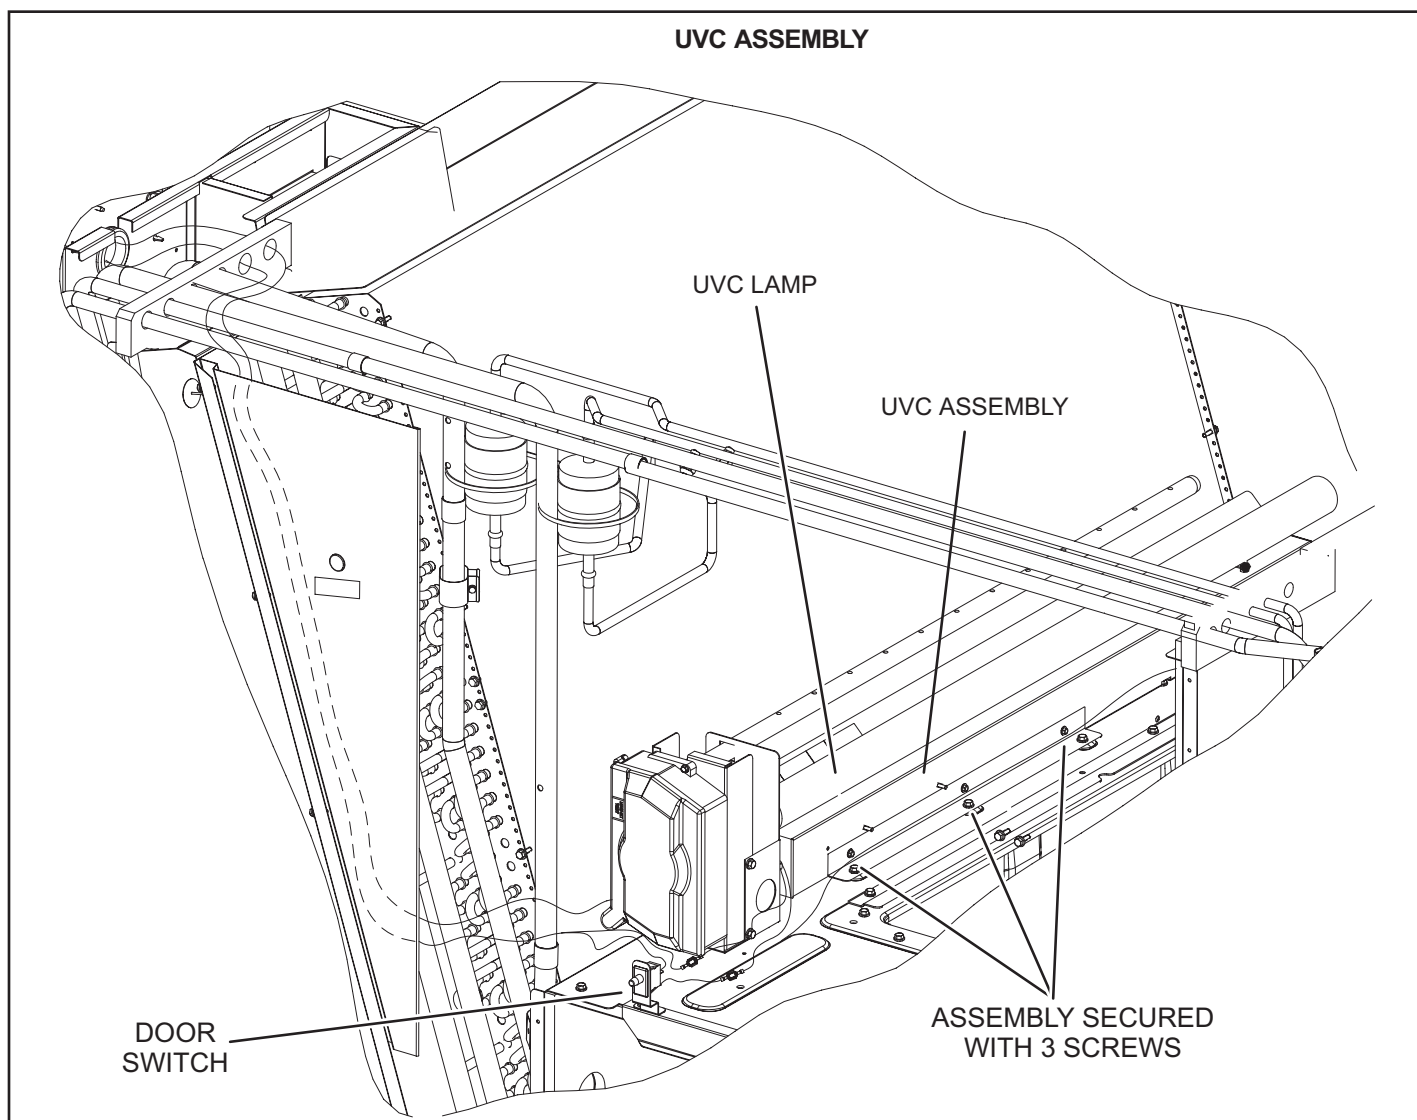
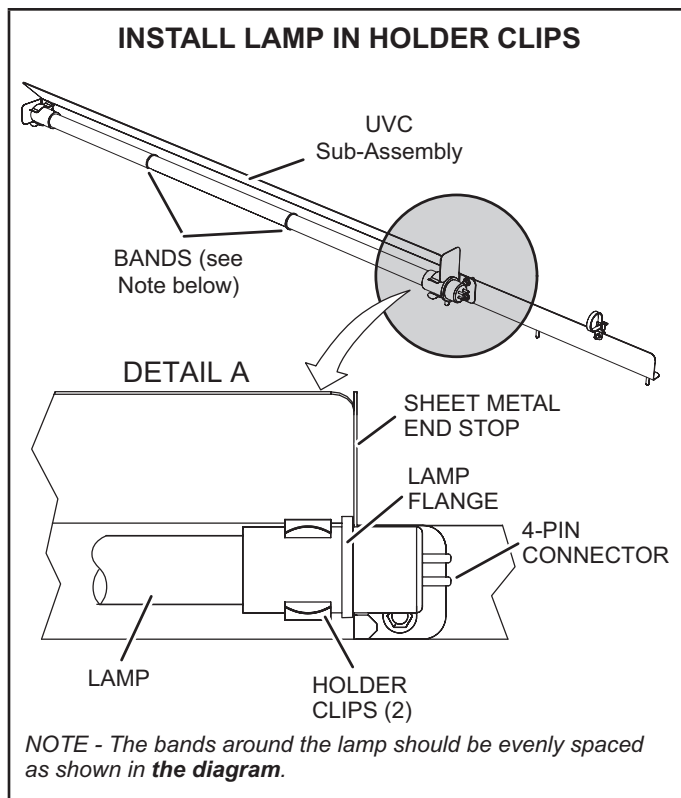

Figure 43
Figure 44
When the UVC light is factory installed, the lamp is shipped in a foam sleeve. The lamp is attached to the UVC light assembly on the blower deck. See Figure 43. Remove the lamp and install into the UVC light assembly as shown in steps 2 through 11.
- 5 - Remove and retain the (3) screws securing the UVC assembly. Carefully slide the complete UVC assembly out through the blower access door. See Figure 43.
- 7 - Wear cotton gloves or use a cotton cloth when handling the new lamp. Place the new lamp in the holder clips of the UVC assembly. Verify that the lamp flange at the connector end is sandwiched between the lamp holder clip and the sheet-metal end stop (see Figure 44).
- 8 - Carefully place the UVC assembly on the blower deck. Line up the mounting holes on the UVC assembly with the mounting holes on the blower deck. See Figure 43. Use the retained screws provided to attach the UVC assembly in place.
- 2 - Ohm-check across the lamp pins to check for continuity of lamp filaments (see Figure 44).
Troubleshooting charts are provided to aid in determining the cause of any problems encountered (Figure 43 and Figure 44).